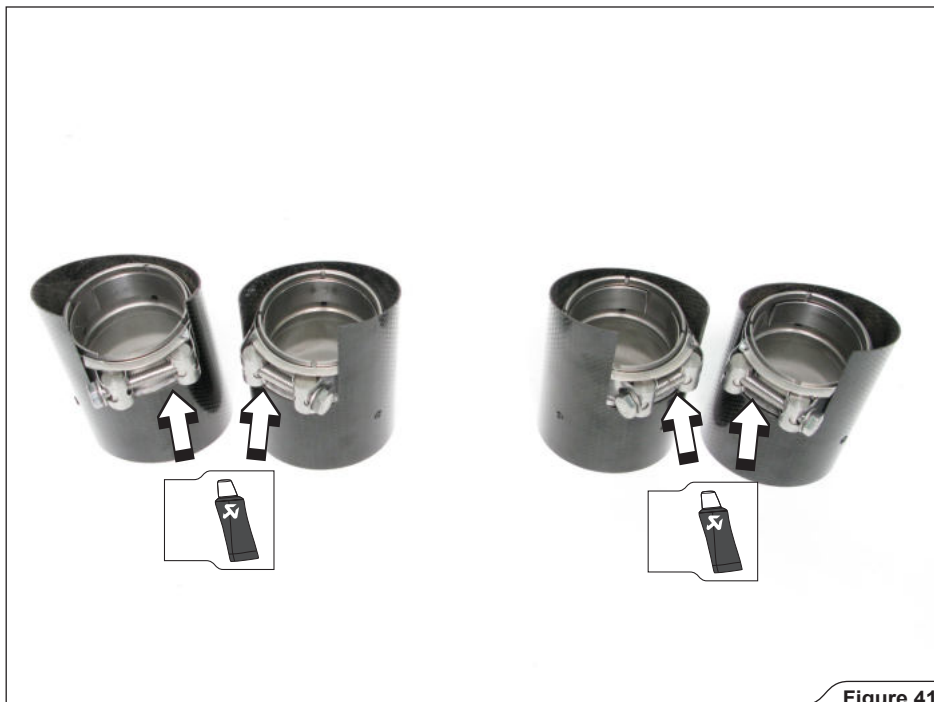

Figure 41
21. **For Slip-On:** assemble the clamps and spherical rings onto the Tail Pipes, as shown (**Figure 41**).